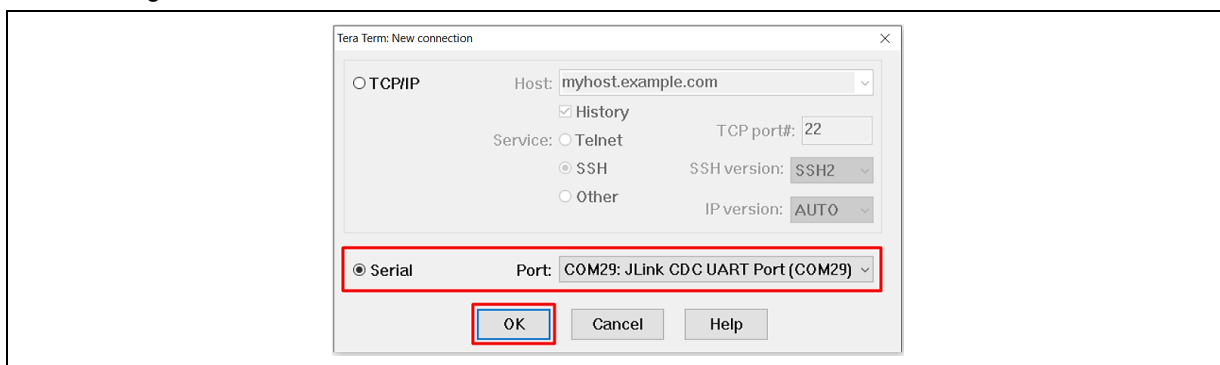
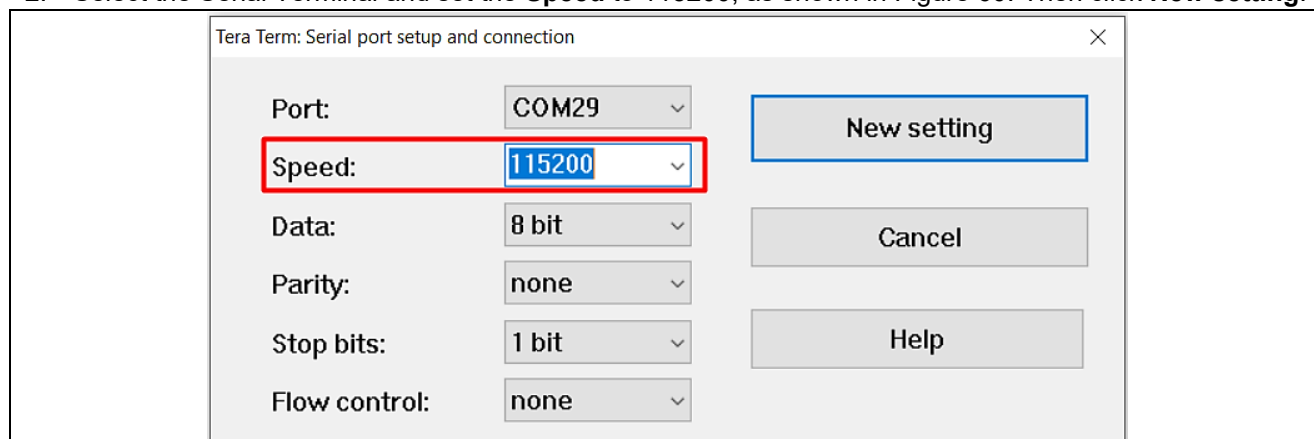

Figure 59. Open the USB COM Port
Figure 60. Configure the Baud Rate
Note that when using the UART interface, users need to open the Tera Term and configure the Baud Rate first, as shown in Figure 59 and Figure 60. Then, the debug session can be started from the primary application.
1. Open Tera Term and choose the JLink CDC UART Port (COM number may be different for your setup), as shown in Figure 59. Then click **OK**.
2. Select the Serial Terminal and set the **Speed** to 115200, as shown in Figure 60. Then click **New setting**.